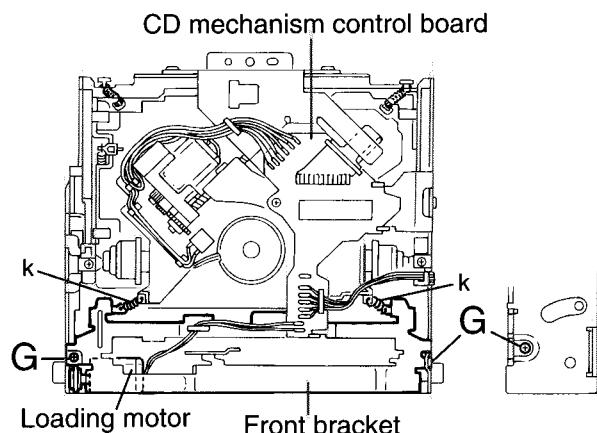

Fig.12
■ Removing the loading motor (See Fig.12 to 14)